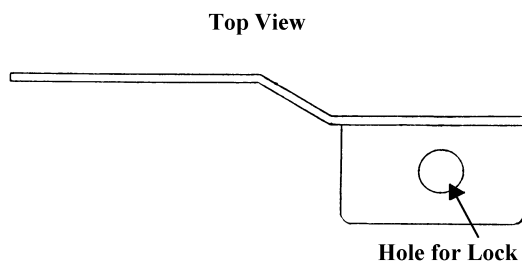

Figure 1
2. Note that the lock latch is shaped like the vandal panel on the main door. (See figure 1 below.)
7. With the door closed, slide the long leg of the lock strike behind the lock latch, at the same time align the  $\frac{1}{2}$ " diameter hole in the lock latch with the square hole in the lock strike. (See figures 1 & 3 below.)